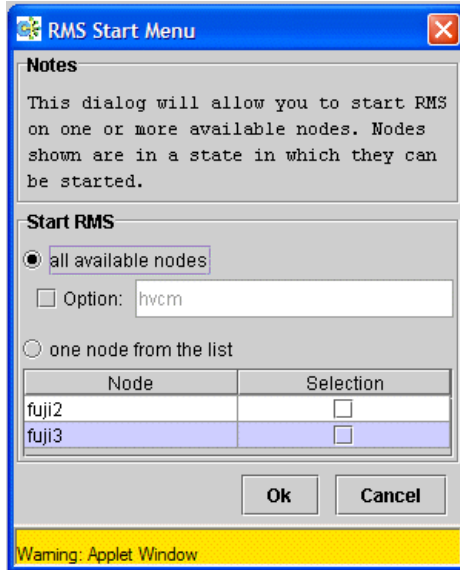

Figure 81: RMS Start Menu for all nodes
1. Click on the *Start RMS* radio button for *all available nodes* (see Figure 81).